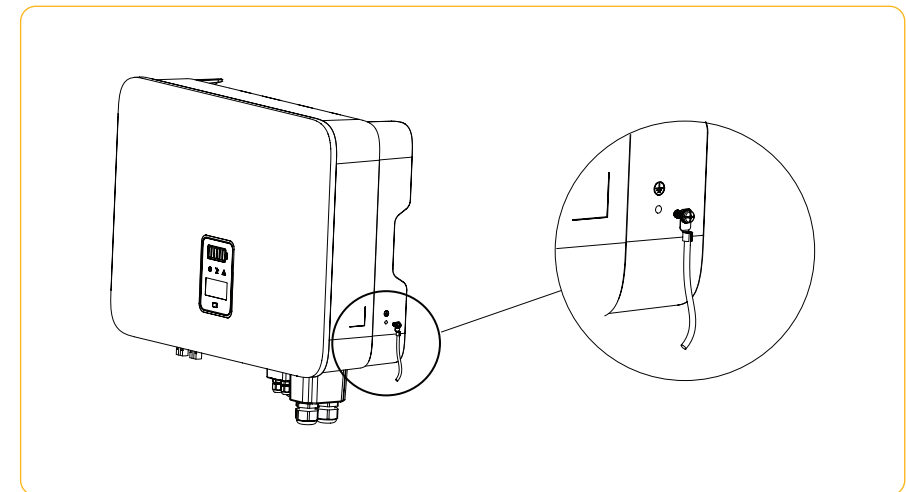

Figure 4-16 Grounding terminal connection
- 2 Fix the grounding terminal to the PE wire with a proper tool and lock the grounding terminal to the grounding hole in the lower right side of the inverter. As shown in Figure 4-16 :